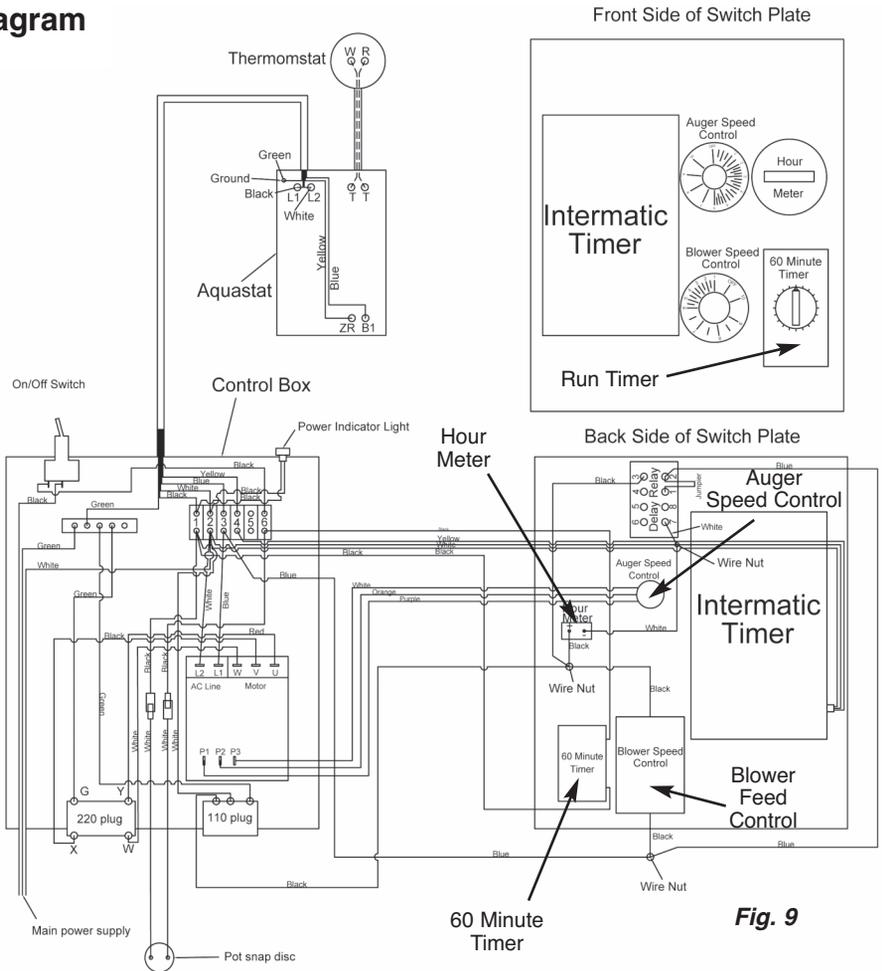

Fig. 9
- 2 - Turn run timer to one hour. See page 7, Fig. 9 for run timer location.